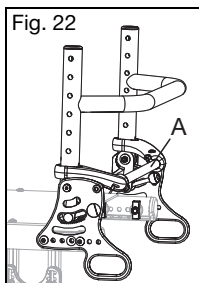
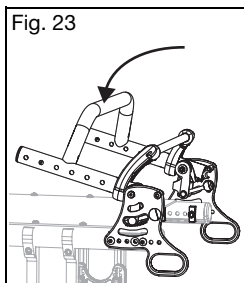

Fig. 22
Fig. 23
WARNING: Do not lift the wheelchair by the release bar (Fig. 22:A). Lifting the wheelchair by the release bar may cause parts to fail which could cause a fall resulting in serious injury or death.
1. Lift the back release bar (Fig. 22:A), located behind the back frame, to release the latch and fold downwards towards the seat frame (Fig. 23). To latch back into place, pull the back release bar outward and the back will release and can be pushed into the upright position. The backrest will automatically latch onto the side frame.